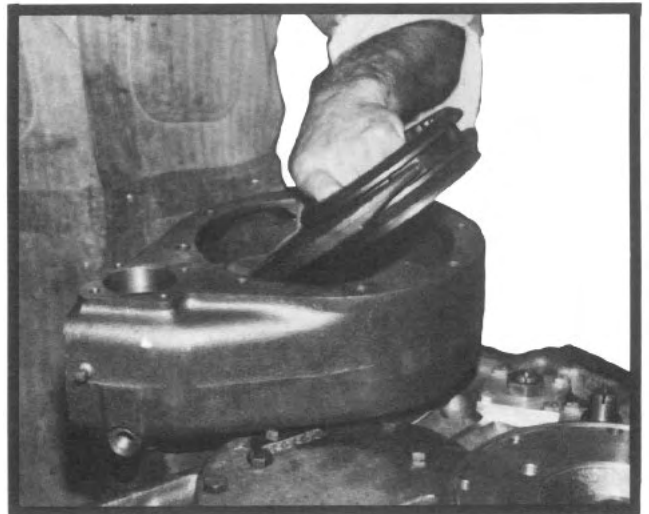

Fig. 3
10. Withdraw shift fork and clutch collar (see fig. 3).